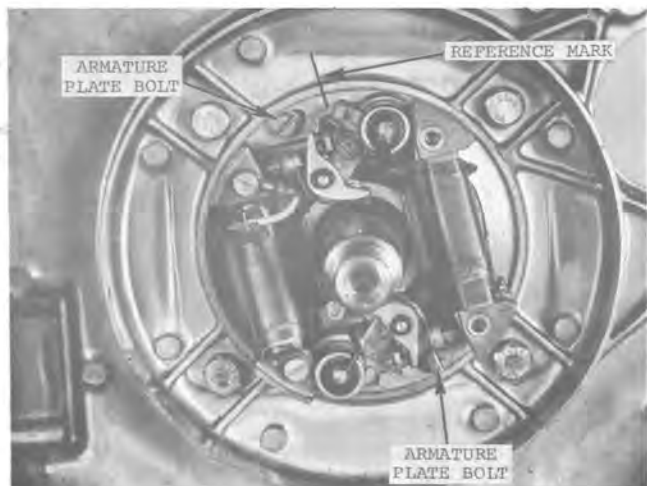

Fig. 9 — Fan Case and Armature Plate Assembly
6. Remove piston pin bearing and retainers (washers) as shown in Fig. 9.
7. Make reference mark on armature plate and fan case. See Fig. 9. Remove two armature plate bolts and four fan case securing bolts. Remove fan case and armature as a unit. See Fig. 10.
15. Attach fan case to crankcase with four bolts. Align reference marks on fan case and armature plate and secure with two armature plate bolts. See Figs. 9 and 10. Replace coil cover (not shown).
from coil and remove armature plate. See Figs. 9 and 10.
6. If timing is incorrect, reach through flywheel opening with screwdriver and loosen two armature plate bolts, Fig. 9. Move armature plate in opposite direction of engine rotation to retard timing.